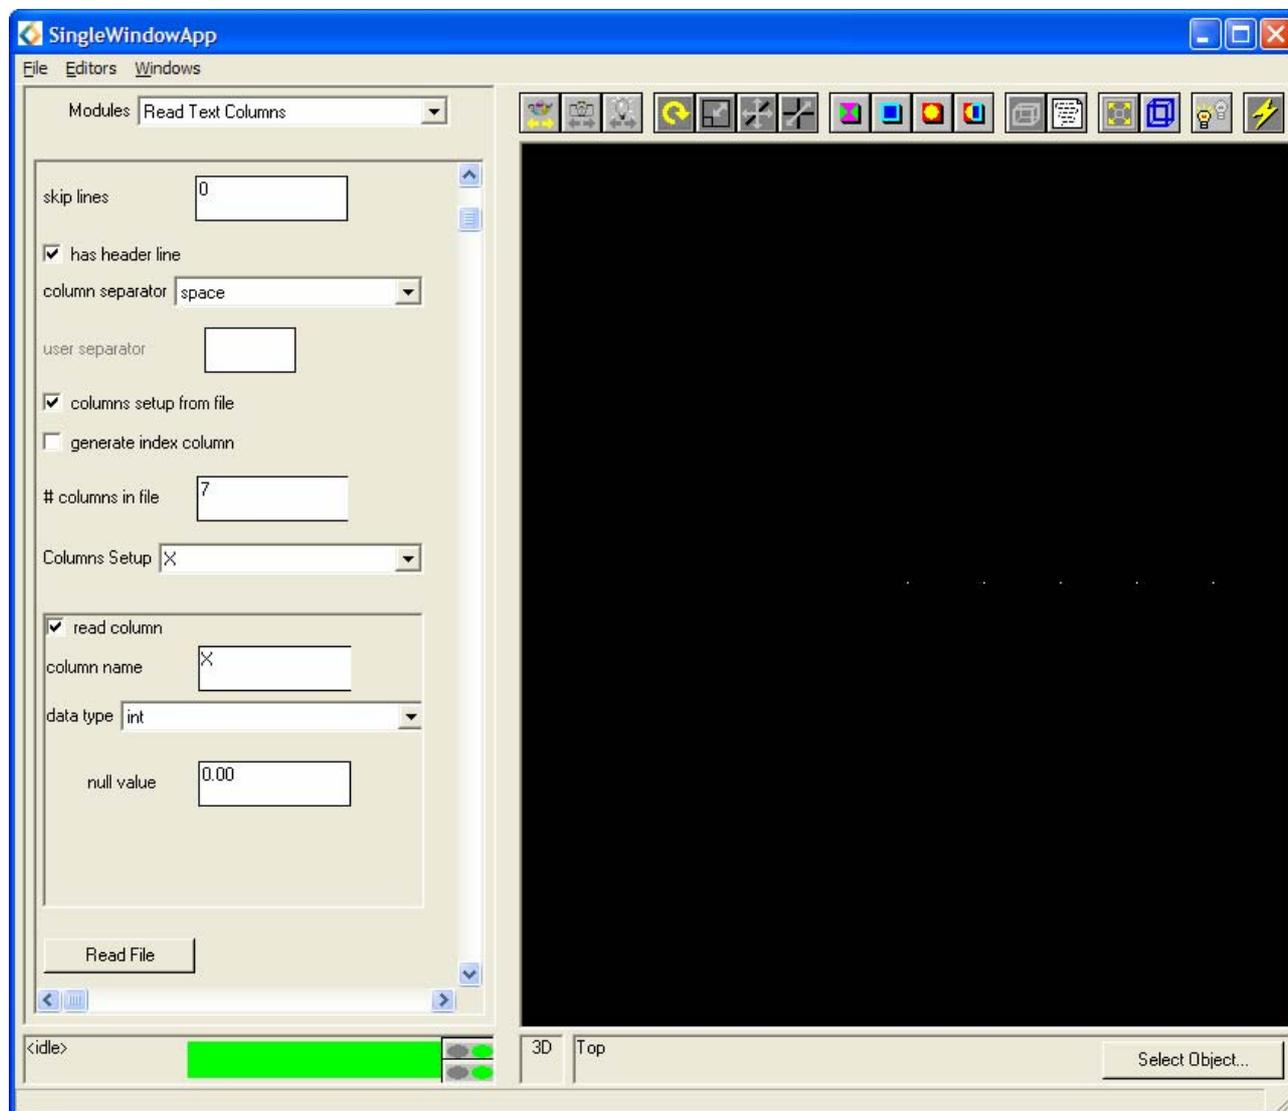

Figure C.26: Read Text Columns Editor Panel for X Coordinate
- The Read Text Columns **Modules** Editor Panel should be open as shown in Figure C.26. From here the parameters of the module can be set.
- The **data type** of the x and y coordinates is **int**. Using the **Columns Setup** dropdown list select the required coordinate and set its properties using the widgets in the indented panel above the **Read File** button (Figure C.26).